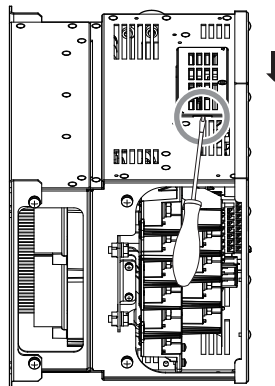

Figure 66 Removing the CN19 Connector Cover
3. Insert a straight-edge screwdriver into the opening as shown in Figure 66, then remove the CN19 connector cover by sliding it as shown in Figure 66.